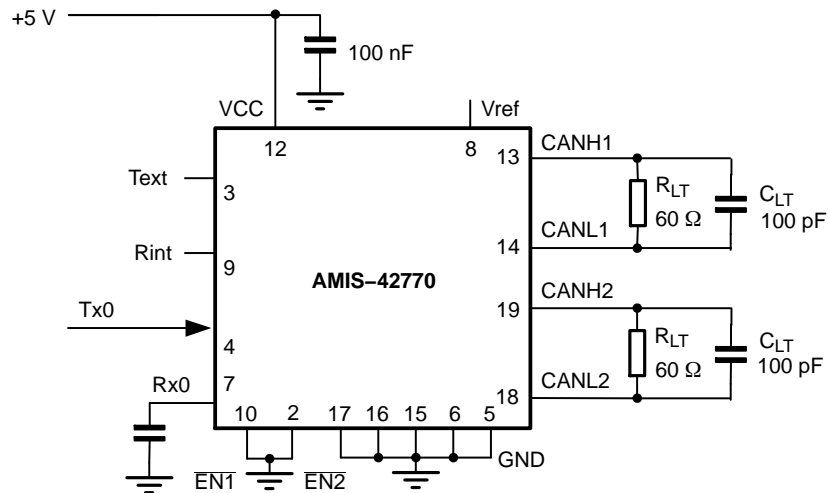

Figure 8. Test Circuit for Timing Characteristics
**TIMING CHARACTERISTICS** (see Figures 8 and 9)